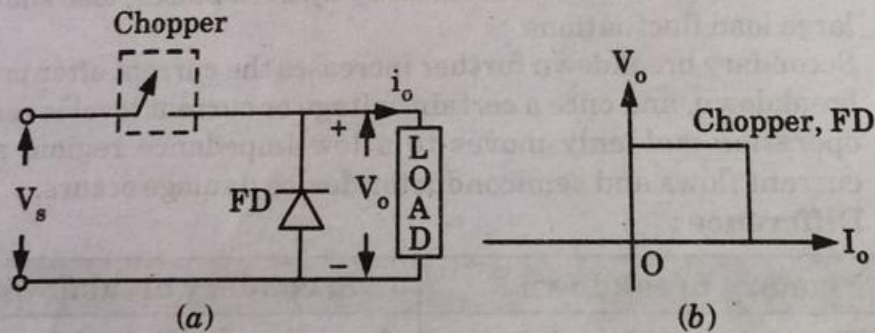

Fig. 1.
1. This type of chopper is shown in the Fig. 1.
3. But when the chopper is OFF v_o is zero but I_o continues to flow in the same direction through the freewheeling diode FD, thus average value of voltage and current V_o and I_o will be always positive as shown in the graph in Fig. 1(b).